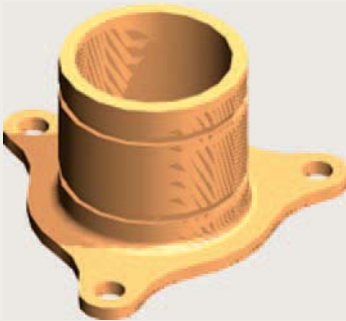
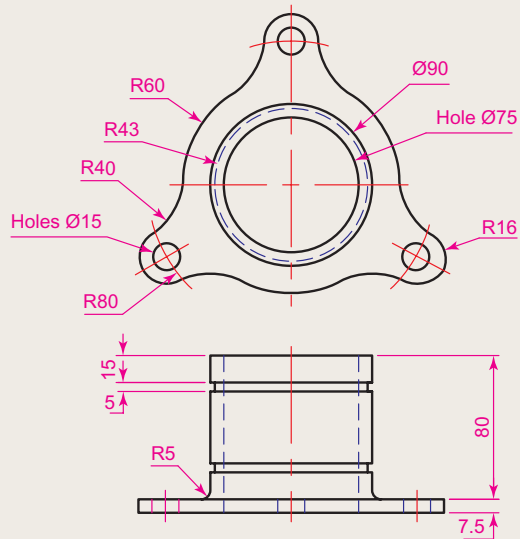

Fig. 17.40 Exercise 5 – a rendering
Fig. 17.41 Exercise 5 – two-view drawing
5. A rendering of a 3D model drawing of the connecting device shown in the orthographic projection Fig. 17.41 is given in Fig. 17.40. Construct the 3D model drawing of the device and add suitable lighting to the scene.